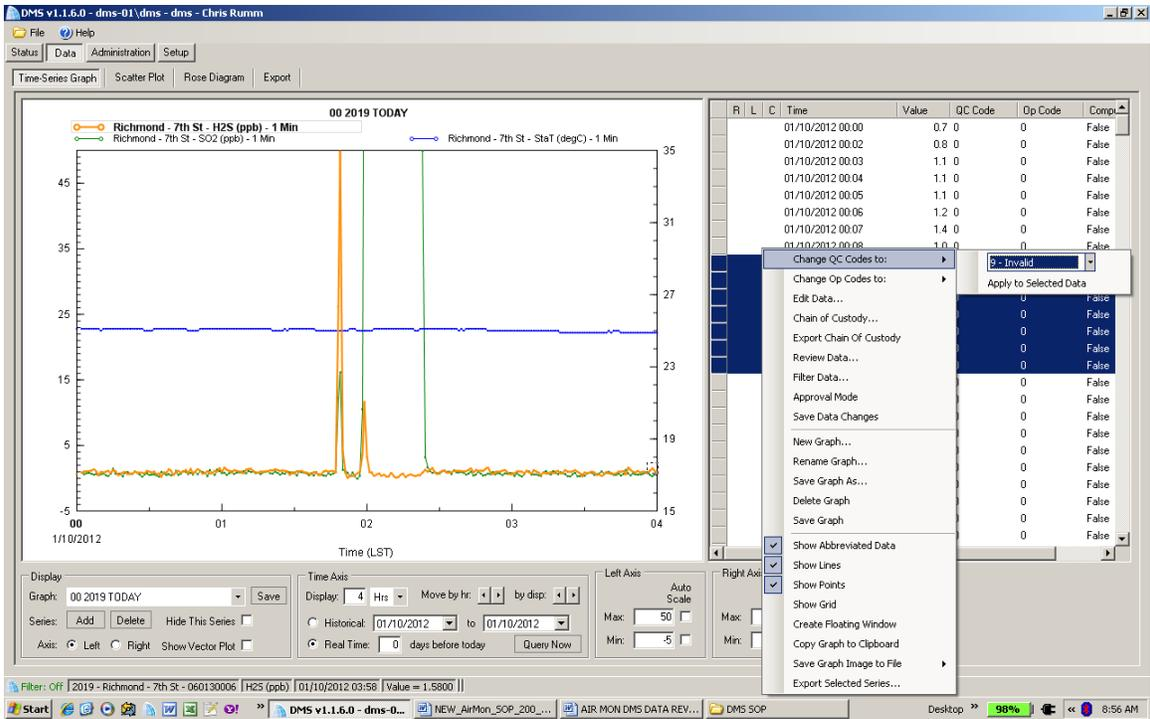
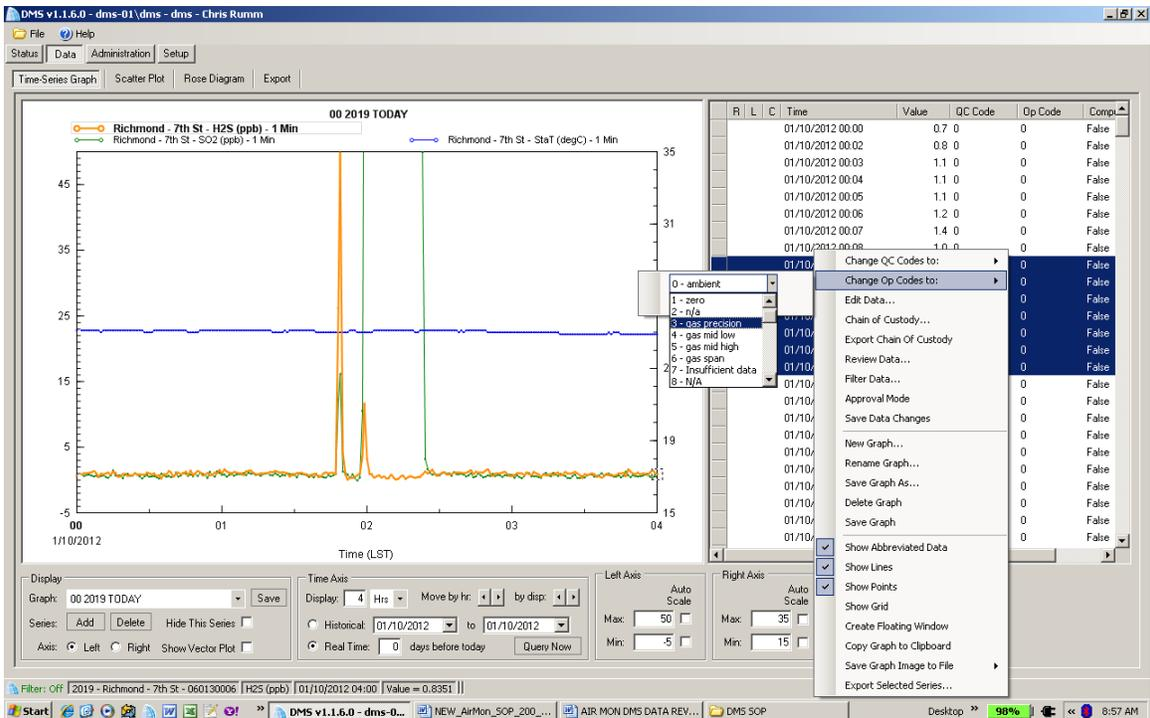

Figure 8: Change QC Codes Pull-Down menu
Figure 9: Change Op Codes Pull-Down Menu
- c. Select either **Change QC Codes to:** or **Change Op Codes to:** (Figure 8: Change QC Codes Pull-Down menu; Figure 9: Change Op Codes Pull-Down Menu)